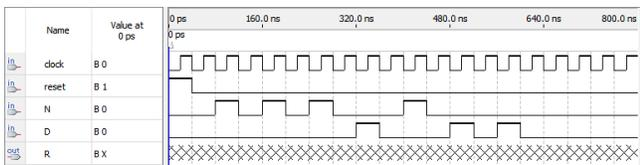

Figure 36. Simulation input waveform.
- For the remaining signals, set the values according to Figure 36.